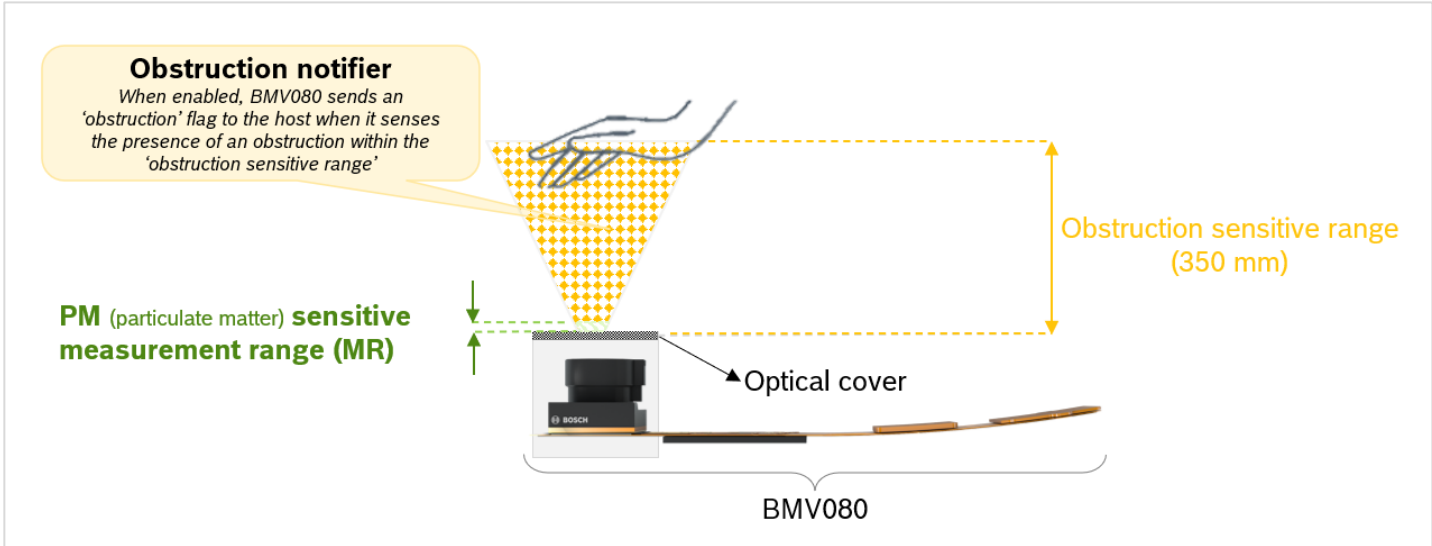

Figure 5: Typical obstruction sensitive range of BMV080
- However, static obstruction (e.g., fixed object in *obstruction sensitive range* (see Figure 5)) will influence sensor functionality. When the BMV080 detects a static obstruction, the PM2.5 output is not available, and an *obstruction flag* is returned. Therefore, static obstructions caused by the integration into the host should be avoided